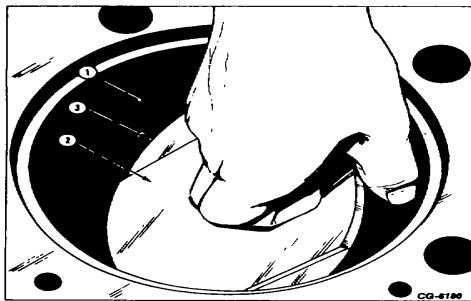

Figure 17. - Pilot and Insert Driver
- f. Install the pilot (2, Fig. 17) and insert driver into the cylinder bore (1) as shown.